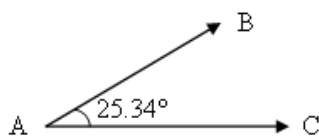

Fig. 4(a)
- 4a) Design member AB and joint A of a roof truss, as shown in the fig. 4(a) for the following data (8) CO4